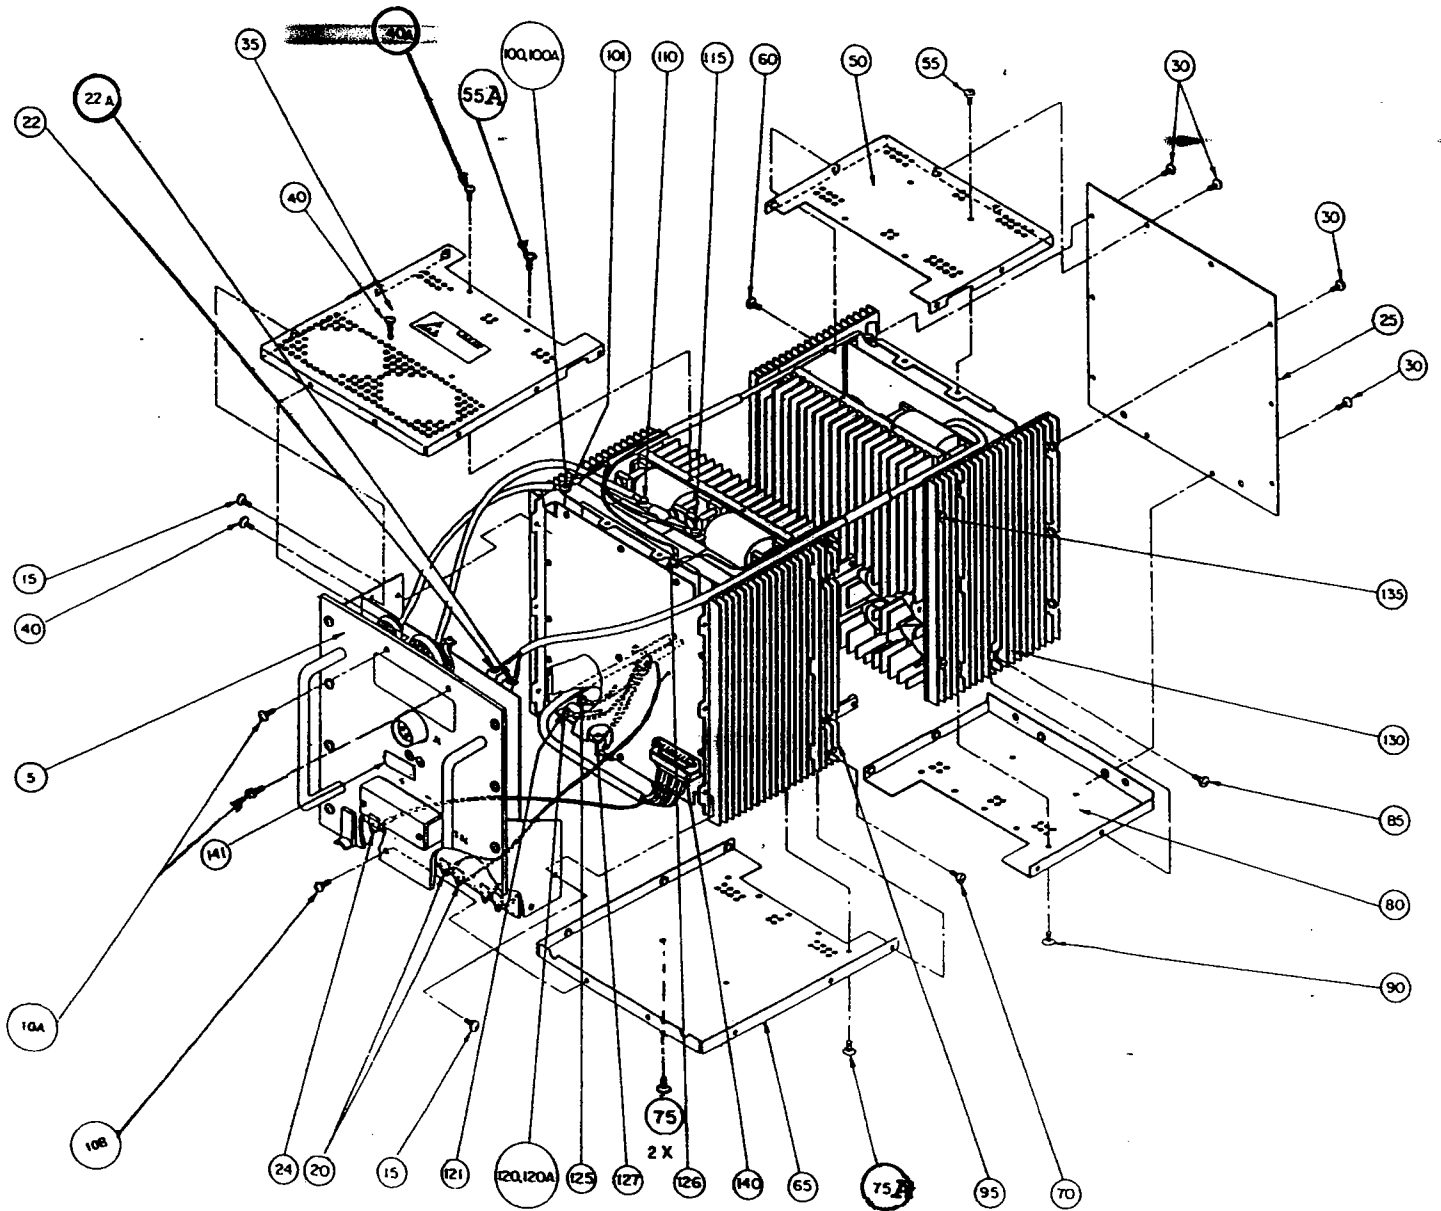

FIGURE 4
1. Remove four (4) screws, item 40 and 40A securing top cover, item 35, on figure 4.
2. Remove eight (8) screws from the front and side panels securing top cover, two (2) of item 10A and six (6) of item 40 on figure 4.
3. Carefully pry off top front panel, item 35 on figure 4.
4. Remove two screws (30) on top edge of rear panel (25).
22. Using figure 4, assemble bridge assembly (130) to flyback assembly (95) with four captive screws (135) on bridge assembly (130).
23. Position bottom rear panel (80).
24. Install four screws (85) securing bottom rear panel (80) on sides and seven screws (90) securing bottom rear panel (80) on bottom.
25. Install two screws (30) on bottom edge of rear panel (25).
26. Position top rear panel (50).
27. Install four screws (55) securing top rear panel (50) on top.
28. Install four screws (60) securing top rear panel (50) on sides.
29. Install two screws (30) on top edge of rear panel (25).
30. Carefully position top front panel, item 35 on figure 4.
31. Install eight (8) screws from the front and side panels securing top cover, two (2) of item 10A and six (6) of item 40 on figure 4.
32. Install four (4) screws, item 40 and 40A securing top cover, item 35, on figure 4.